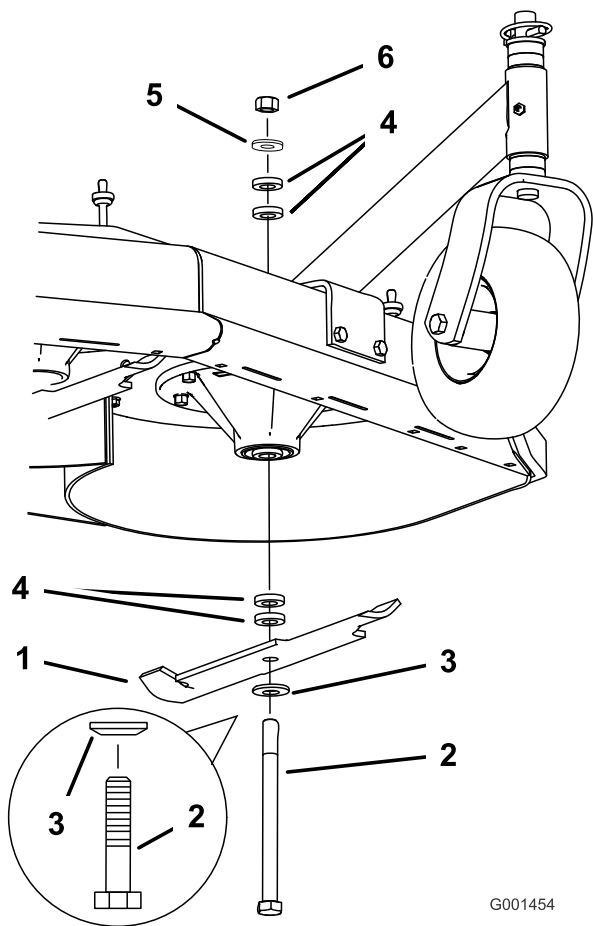

Figure 19
4. Hold the blade bolt and remove the nut. Slide the bolt down through the spindle, and change the spacers as needed (Figure 19).
5. Install the bolt, the curved washer, and the blade; add extra spacers, and secure them with a thin washer and a nut (Figure 19).